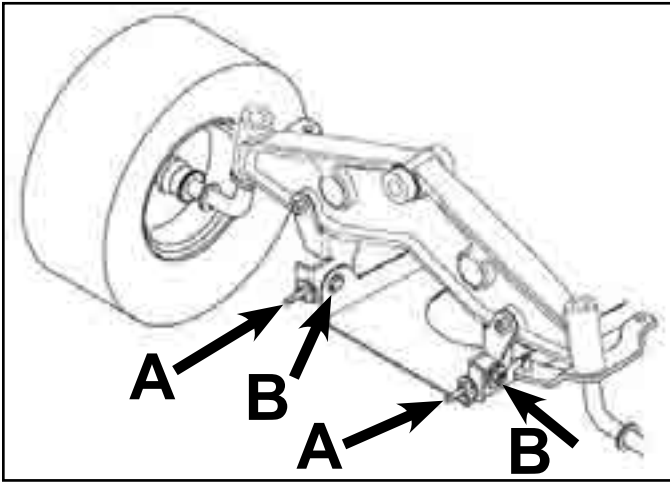

Fig A6 019 fig. 50 m-4634
8. To adjust the front-to-rear blade slope, loosen the front pivot plate mounting bolts slightly (Fig. A6 019).
9. Rotate the locknuts on the eyebolts to change the adjustment (Fig. A6 019). To raise the front of the mower, tighten the eye bolt locknuts. To lower the front of the mower, loosen the eye bolt locknuts.
10. After adjusting both eyebolt locknuts evenly, check the front-to-rear slope again. Continue adjusting the eye bolts until the front blade tip is 0 to 3/8" (0 - 9mm) lower than the rear blade tip (Fig. A6 018).